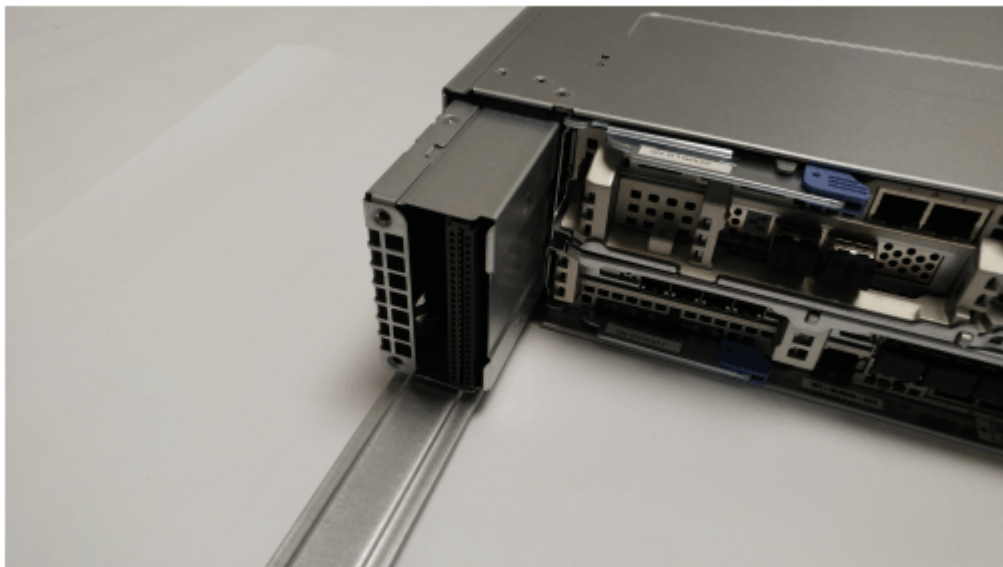

Figure 87. Removing a power interposer
3. Slide the power interposer out until it is clear of the enclosure rear, as shown in Figure 87 on page 141.